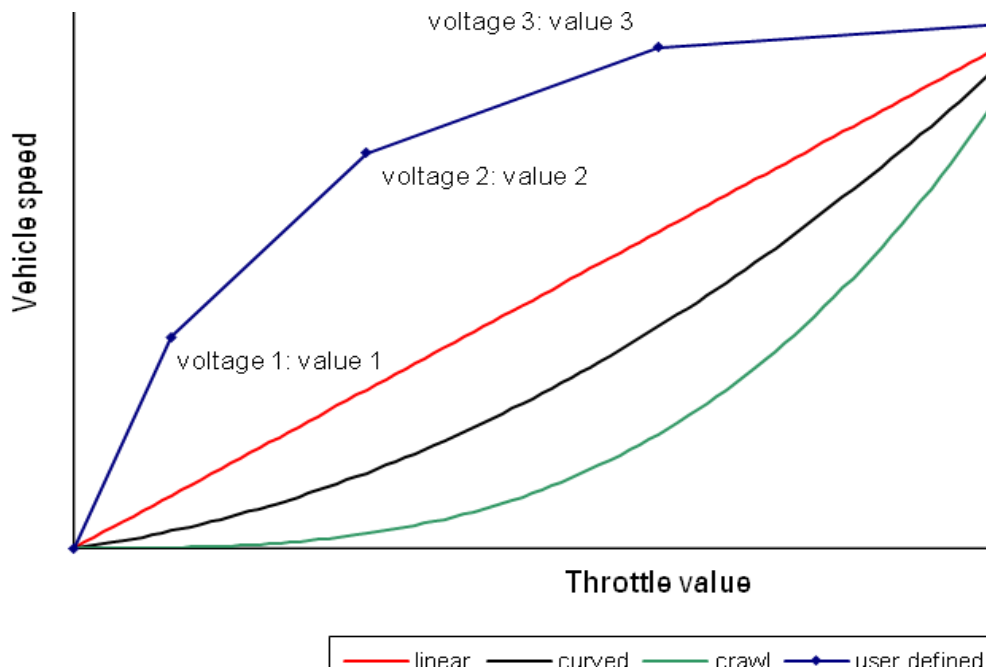

Figure 26 Input characteristics
- Define the input characteristic: this is a profile to the throttle value and can be linear, curved, crawl or user-defined as shown in Figure 26. The curved and crawl characteristics give greater throttle control at low speeds.